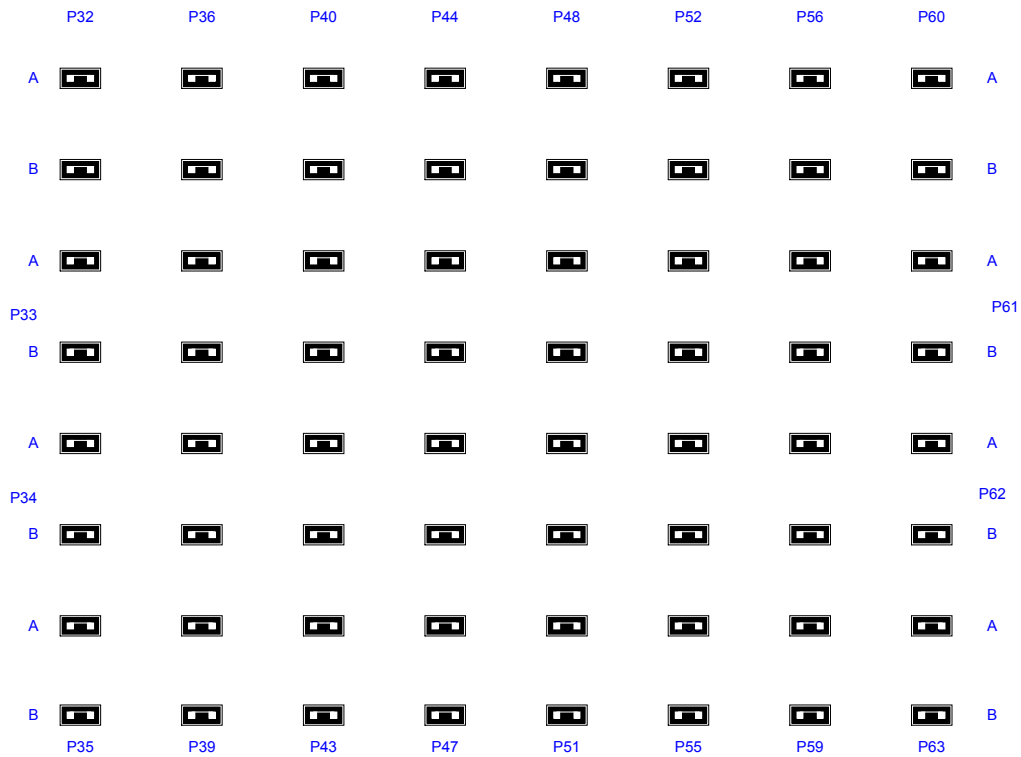

FIGURE 2-16. Main Board Assembly – Port 32-63 Termination Shunt Arrangement
- 6. The right array supports data ports 32-63 and is shown in greater detail in Figure 2-16. These shunts are arranged in the same format as the left array.